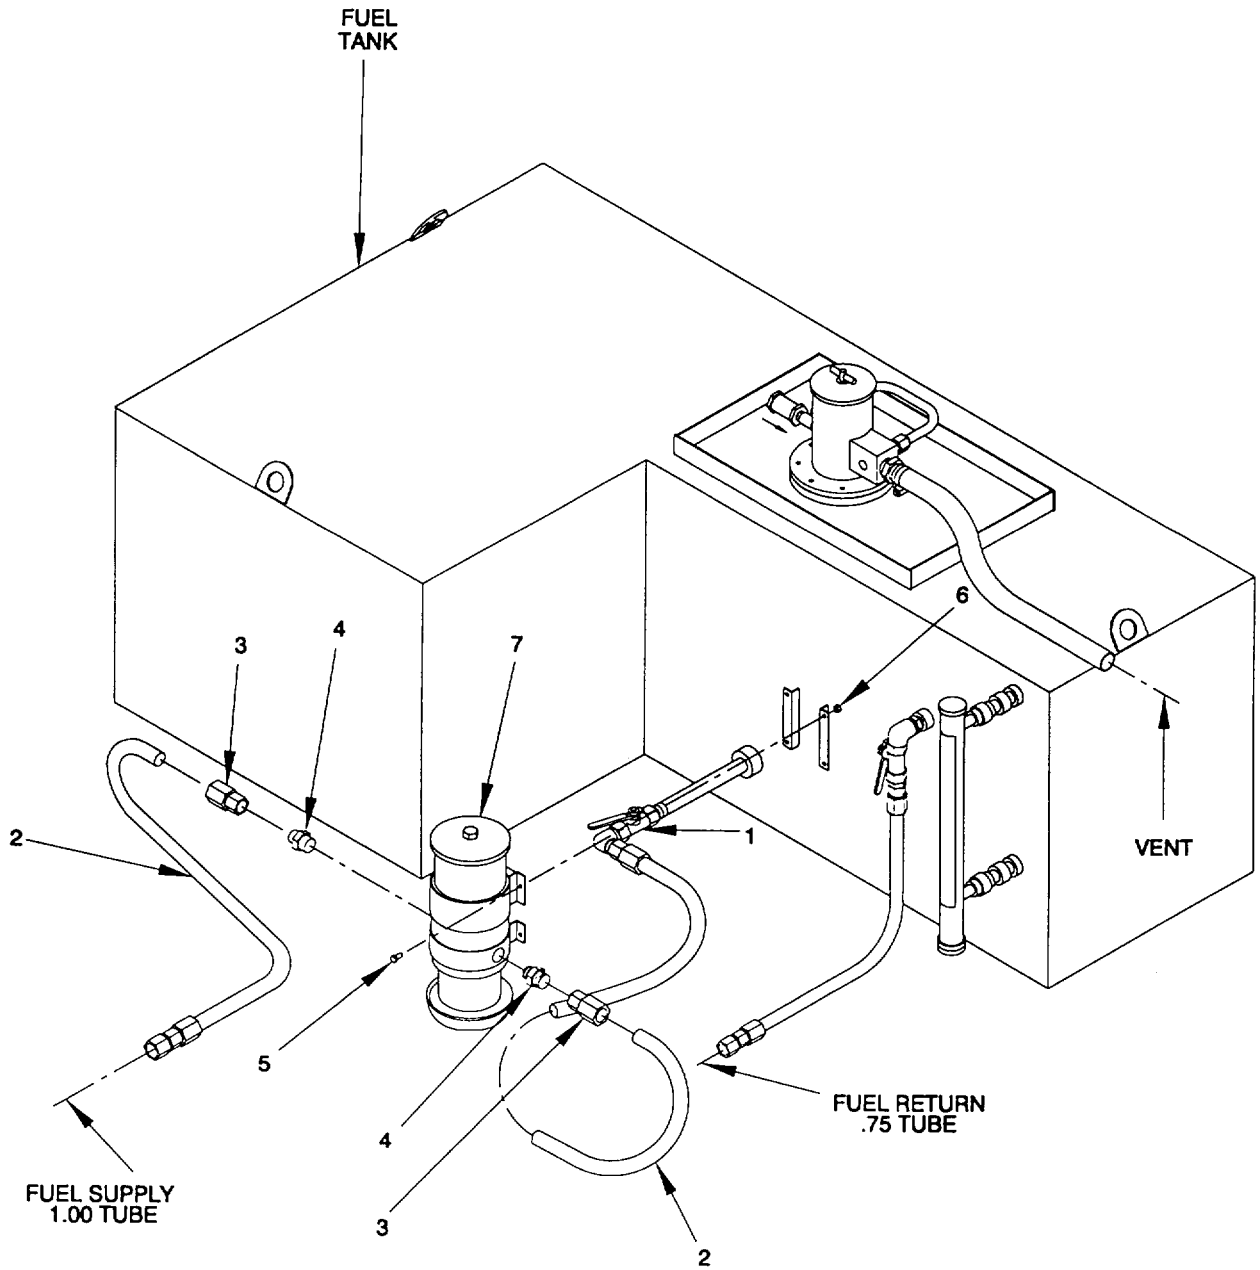

Figure 2-44. Fuel Water Separator, Remove/Install
(9) Open ball valve in fuel inlet line to fuel water separator.
b. Remove. (figure 2-44)
(1) Remove two hoses (2), two hose fittings (3) and two external thread reducers (4).
(2) Remove four hex head capscrews (5) and four hex nuts (6) securing fuel water separator (7) to fuel tank. Remove fuel water separator (7).
c. Install. (figure 2-44)
(1) Position new fuel water separator (7) on fuel tank. Secure with four hex head capscrews (5) and four hex nuts (6).
(2) Install two external thread reducers (4), two hose fittings (3) and two hoses (2).
(3) Open ball valve (1) in fuel inlet line to fuel water separator (7).
(4) Check for leaks.